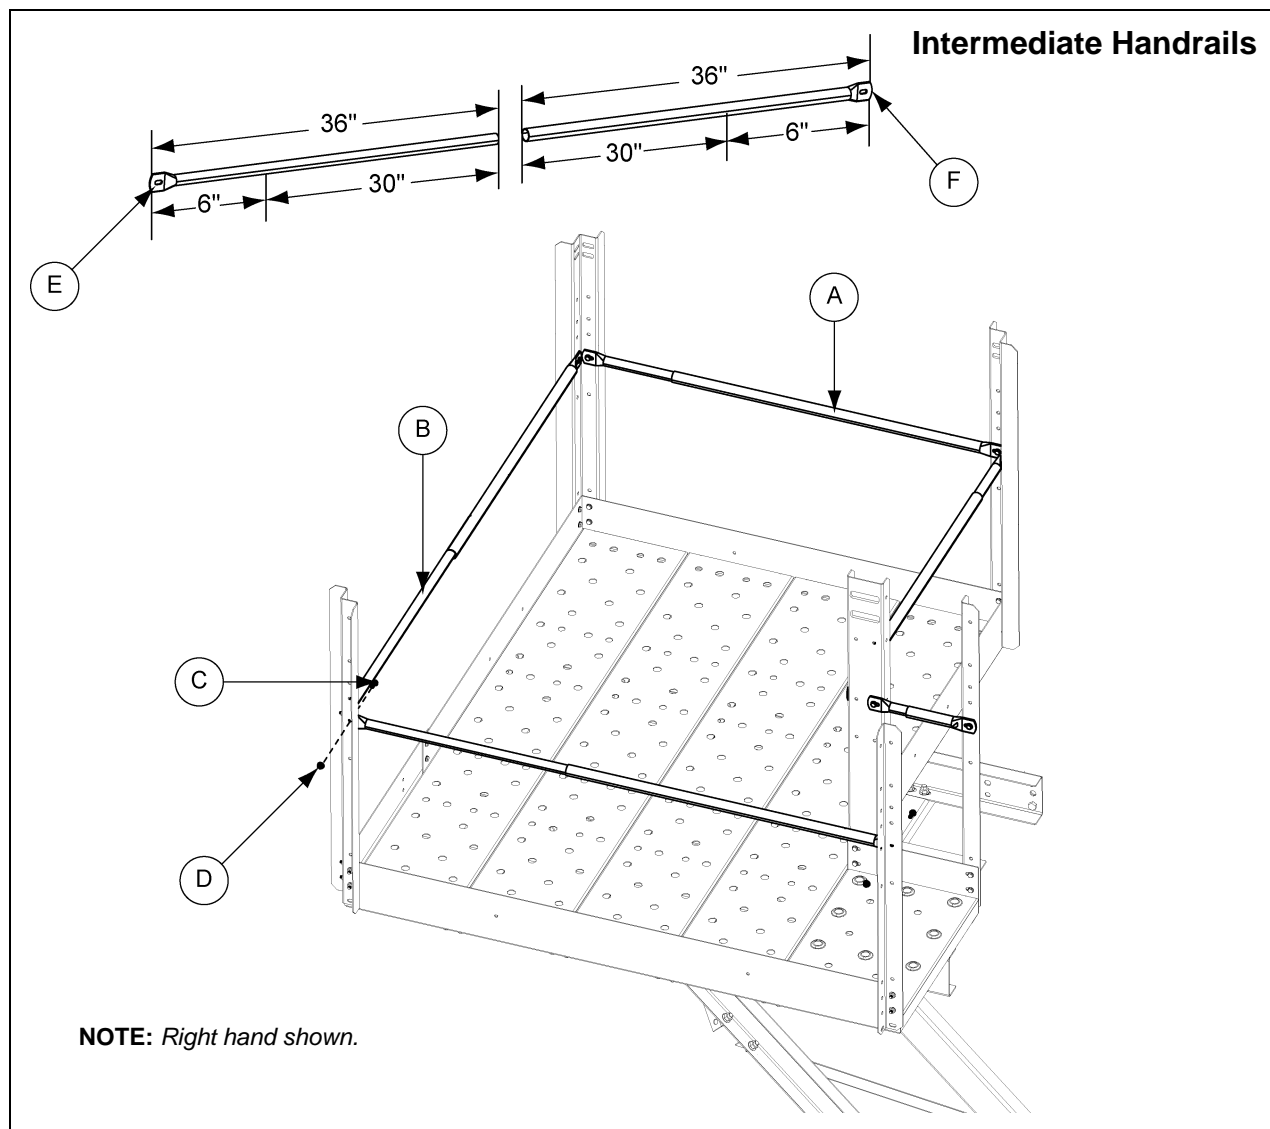

Figure 12I
1. Insert small intermediate handrail (LDR-4087) (B) into the large intermediate handrails (LDR-4088) (A) to create telescoping rails. Cut 30" off one small intermediate and one large intermediate rail to fit at entrance. Adjust all rails to the proper length and install to the posts using the 5th hole down from the top. Fasten in place using two (2) 5/16" x 3/4" flange bolts (S-6606) (C) and nuts (S-3611) (D) per each telescoping tube. *(See Figure 12I.)*